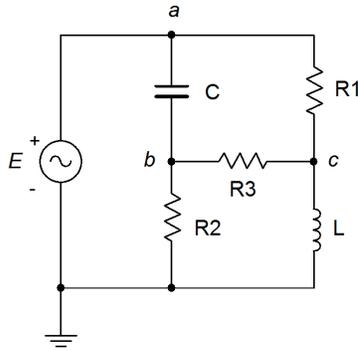

Figure 6.10
19. Use mesh analysis to find the current through resistor R3 in Figure 6.10.  $E = 60\angle 0^\circ$ ,  $R_1 = 1\text{ k}\Omega$ ,  $R_2 = 2\text{ k}\Omega$ ,  $R_3 = 3\text{ k}\Omega$ ,  $X_C = -j10\text{ k}\Omega$ ,  $X_L = j20\text{ k}\Omega$ .
20. Given the circuit in Figure 6.10, use mesh analysis to determine  $v_{bc}$ .  $E = 120\angle 90^\circ$ ,  $R_1 = 100\text{ k}\Omega$ ,  $R_2 = 20\text{ k}\Omega$ ,  $R_3 = 10\text{ k}\Omega$ ,  $X_C = -j5\text{ k}\Omega$ ,  $X_L = j20\text{ k}\Omega$ .
53. Given the circuit in Figure 6.10, use nodal analysis to determine  $v_{bc}$ .  $E = 120\angle 0^\circ$ ,  $R_1 = 1\text{ k}\Omega$ ,